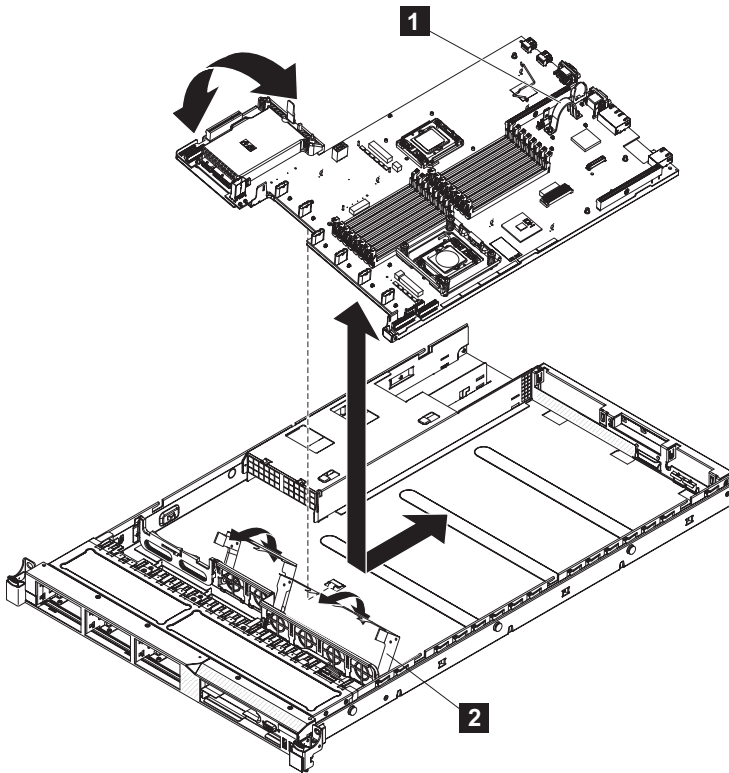

Figure 274. Removing and replacing the SAN Volume Controller 2145-CG8 or 2145-CF8 system board
18. Grasp the system board handle ( **1** in Figure 274) and slide the system board away from the back of the node. Lift the side of the system board that is nearer to the power supply units slightly so that it disengages from the locator pin; then, slide the system board slightly toward the left of the node, as shown in Figure 274.